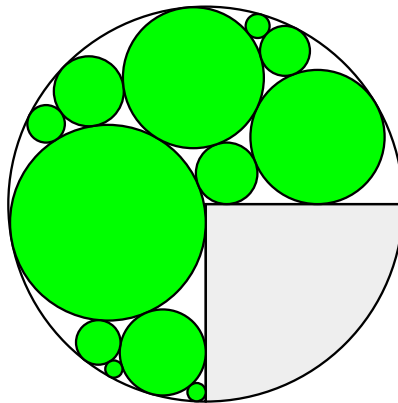

Figure 4: Is this an optimal packing of 12 disks?
**Problem 4:** Now we pack the disks into three-quadrants of a circle. Figure 4 shows 12 disks packed into the region and this particular arrangement gives density  $d = 0.84926$ . Can you get  $d \geq 0.85$  with 12 disks? The fourth problem is to find **a)**  $N(0.85)$  and **b)**  $N(0.88)$ . Make figures of these packings.